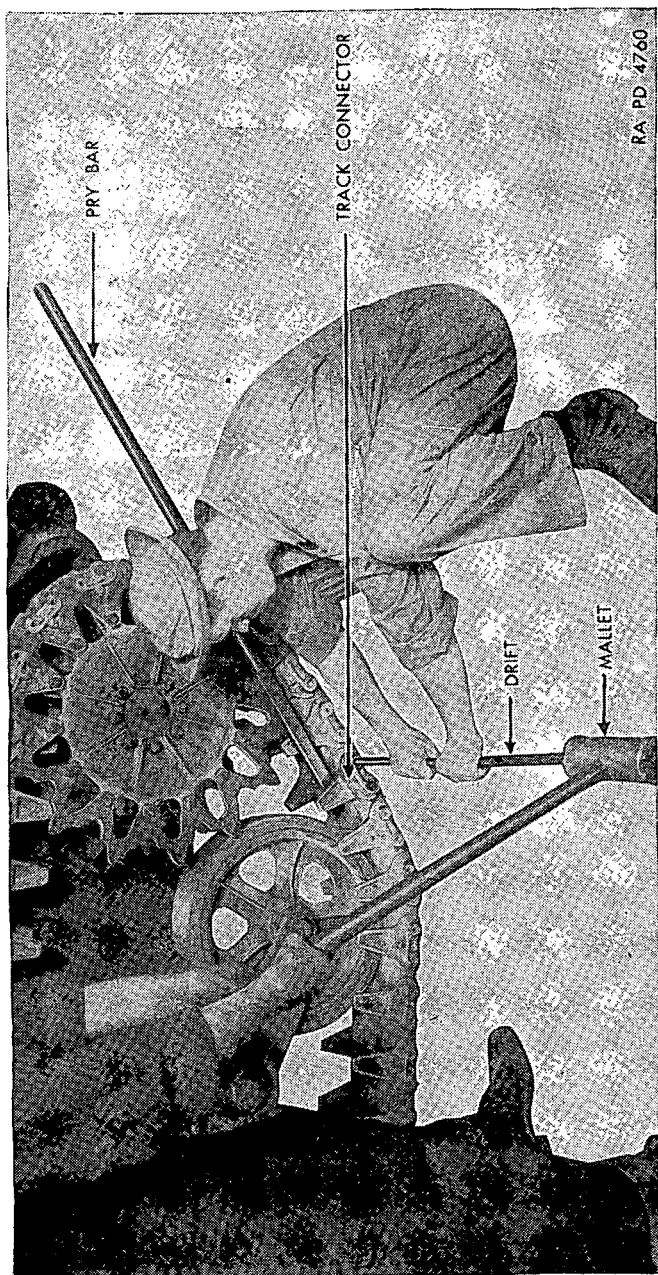

FIGURE 81.—Removal of outside track connector
(4) Lock track idler	Pliers, Wrenches, 3/4-in., O. E., 1 1/16-in., O. E.	If serrations do not engage, tighten track adjusting nuts until they do engage. Do not move track adjustment nuts more than one-half turn from the correct setting. Tighten trailing idler gudgeon nuts and install cotter pins.
d. Disconnect track (figs. 81 and 82).—(1) Be sure vehicle is on level ground. Engage brakes, loosen trailing idler (c (1) and (2) above), and proceed as follows: